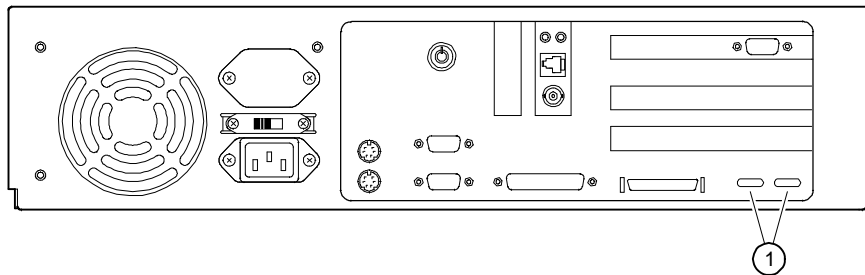

Figure 5-1 Diagnostic LEDs
Figure 5-1 shows the locations of the diagnostic LED viewing ports ①.